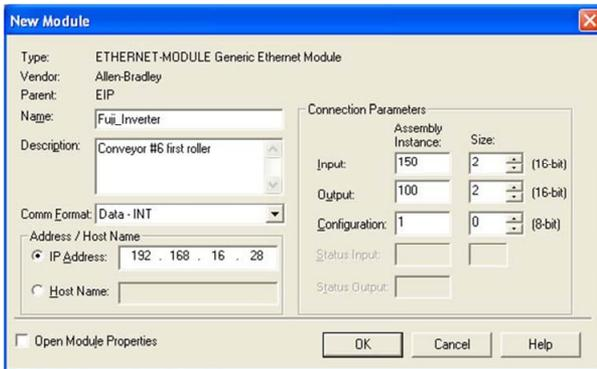

Figure 78: Interface Card Module Properties
- 4) The module properties dialog box will open (refer to Figure 78). Enter a Name and Description which will allow easy identification of the inverter on the network (the tags created in RSLogix 5000 will be derived from this Name). Because all inverter data is stored as 16-bit function code values, change the “Comm Format” selection to “Data-INT”. Enter the IP address of the targeted interface card.